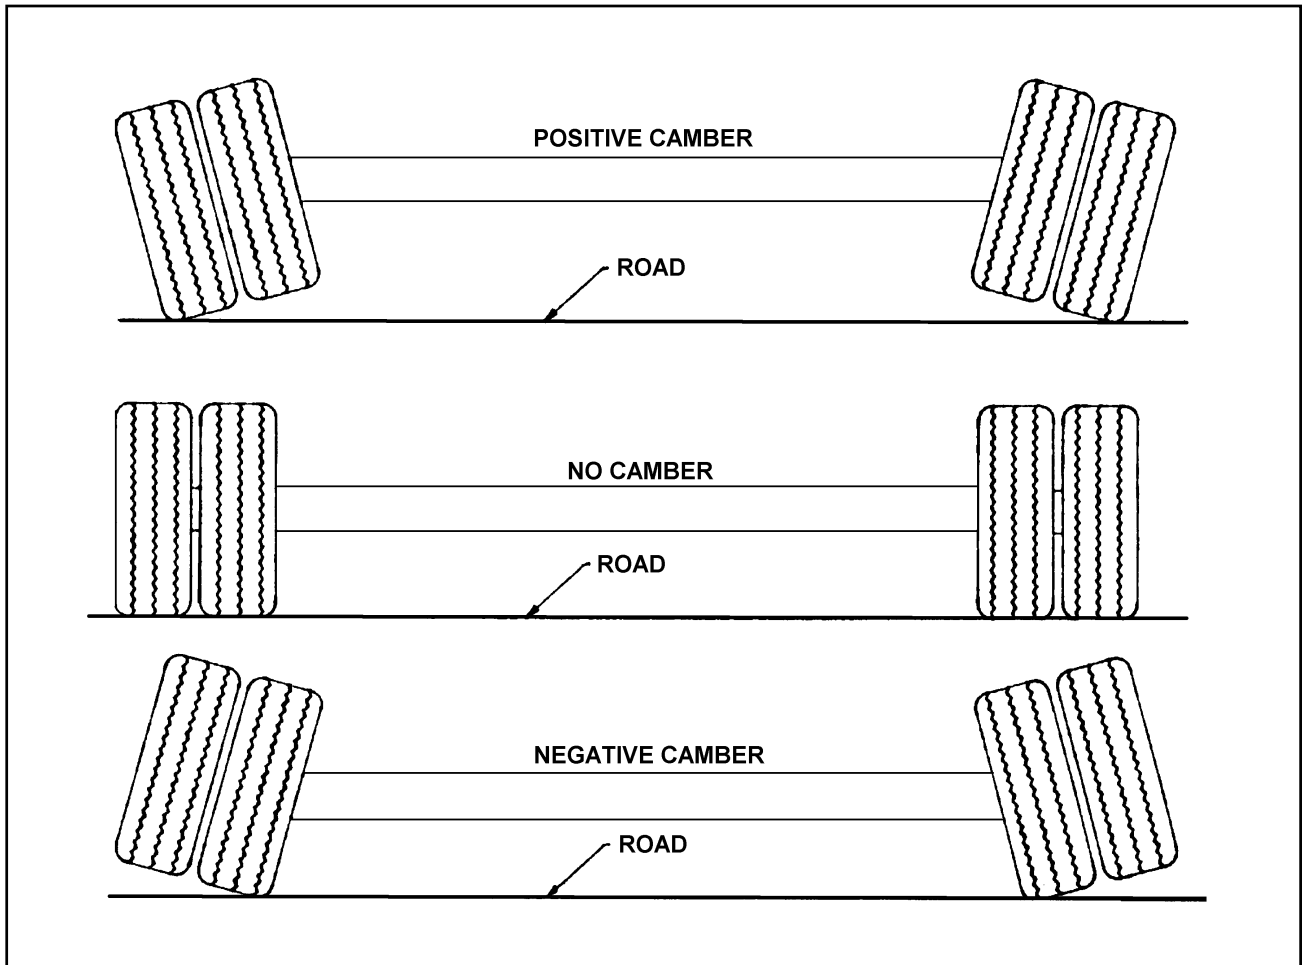

Figure 4-8 Examples of Camber
- d. Follow the same procedures as in Section 4-8.1 b. and c., except place the axle gauge above and below the axle. If gauge point gap is found, the axle has positive or negative camber. The semitrailer axle has no camber from the factory. If it is found to have positive or negative camber, axle replacement is necessary (See Figure 4-8 for examples of camber).